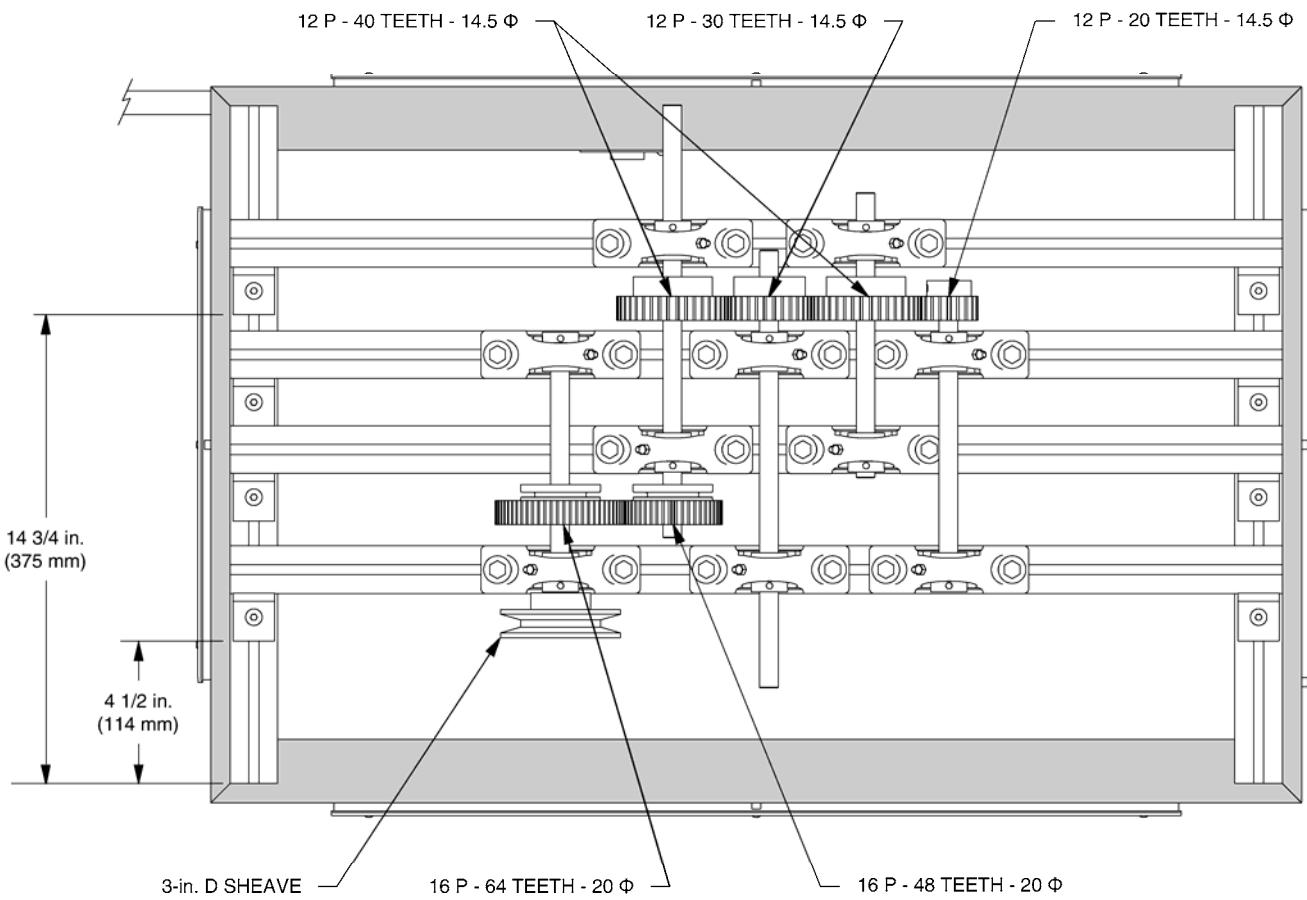

Figure 7-2. Universal base setup.
6. Set up a compound gear drive as shown in Figure 7-2.